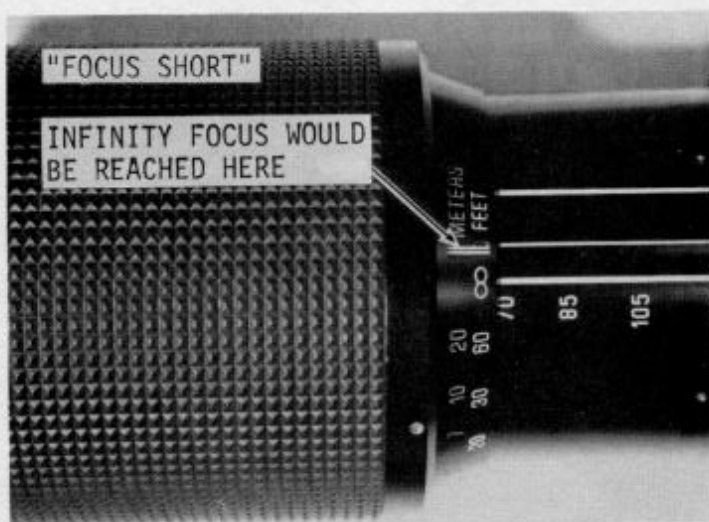

Fig. 58
- 10.2.1 Focus Short - When rotating Zoom Collar to focus at infinity, focusing scale contacts infinity stop before infinity focus is reached. That is, infinity focus of the lens is beyond the infinity mark of the focus scale. (Fig. 58)